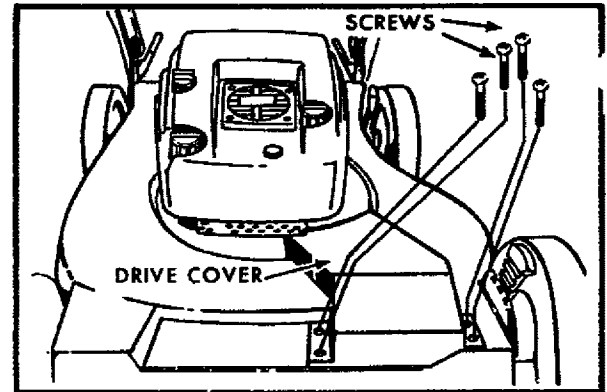

FIG. 21
1. To adjust, remove the drive cover by removing four (4) screws. Keep for re-use (See Fig. 21).
- a. Remove the drive cover by removing the four (4) screws (See Fig. 21). Keep for re-use.
2. Remove the drive cover by removing (4) screws (See Fig. 21).
2. To remove drive cover, remove the four (4) screws (See Fig. 21). Keep for re-use.
1. Remove the drive cover by removing the four (4) screws (See Fig. 21).